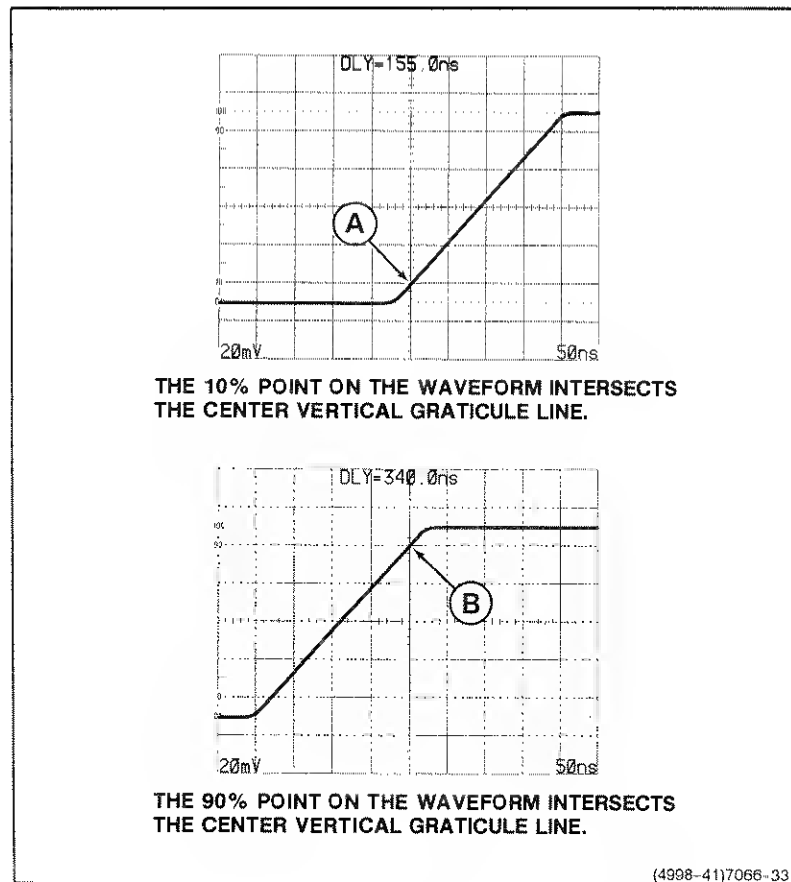

Figure 6-12. Rise time, differential time method.
3. Vertically position the trace so that the zero reference of the waveform touches the 0% graticule line and the top of the waveform touches the 100% graticule line (see Figure 6-12).
6. Select the B HORIZONTAL MODE. Adjust the B DELAY TIME POSITION control until the display intersects the 10% point at the center vertical graticule line (see Figure 6-12, Point A).
8. Adjust the B DELAY TIME POSITION control until the display intersects the 90% point at the center vertical graticule line (see Figure 6-12, Point B).